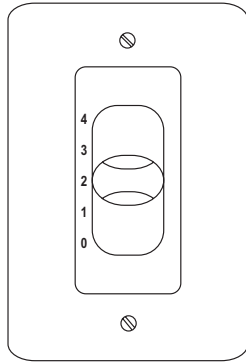

Figure 19
- 2. Check the operation of the fan by sliding the bar of the control through the four positions marked 1 - 4 ("0" position is OFF) (Figure 19).